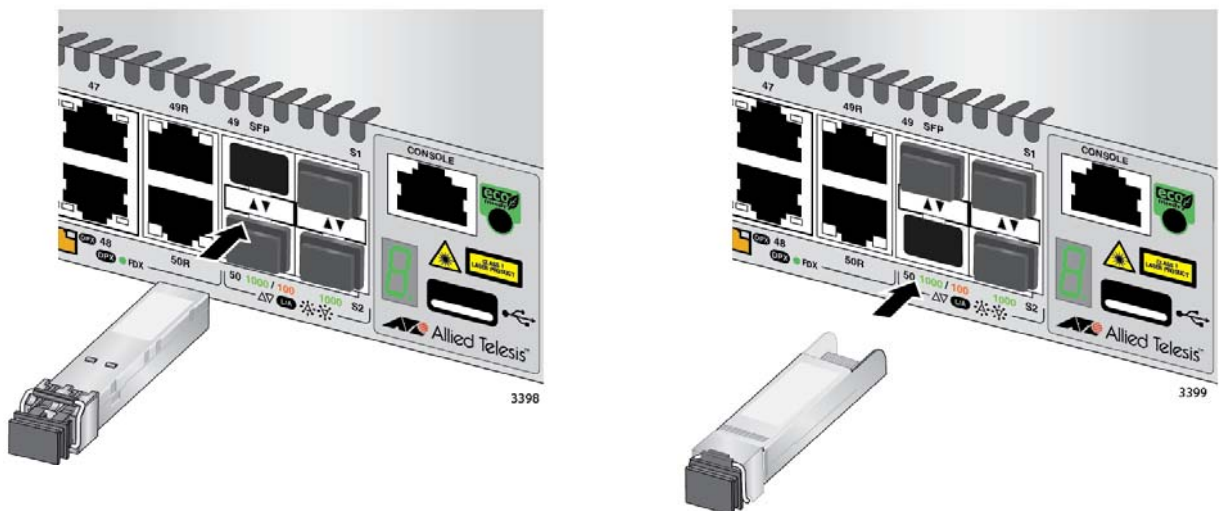

Figure 53. Installing an SFP Transceiver
4. Slide the transceiver into the slot until it clicks into place, as shown in Figure 53.